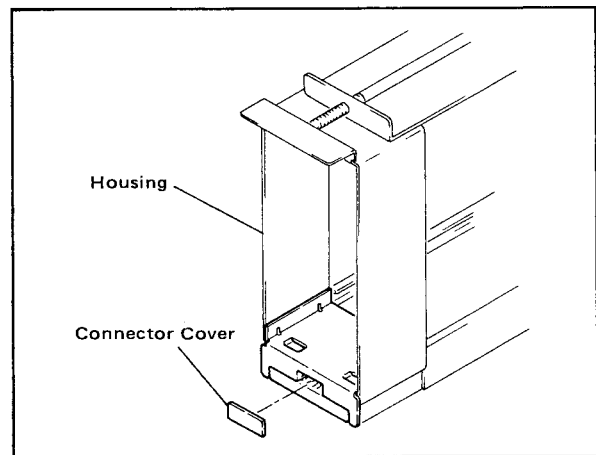

Figure 4-3.
- Remove the connector cover from the controller housing (see Figure 4-3). If the connector cover can not be removed easily, use tweezers or a jeweller's screwdriver.